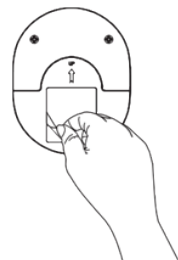

Figure 20
2. Install the battery door onto the wireless switch and remove the back glue isolation paper (see Figure 20).